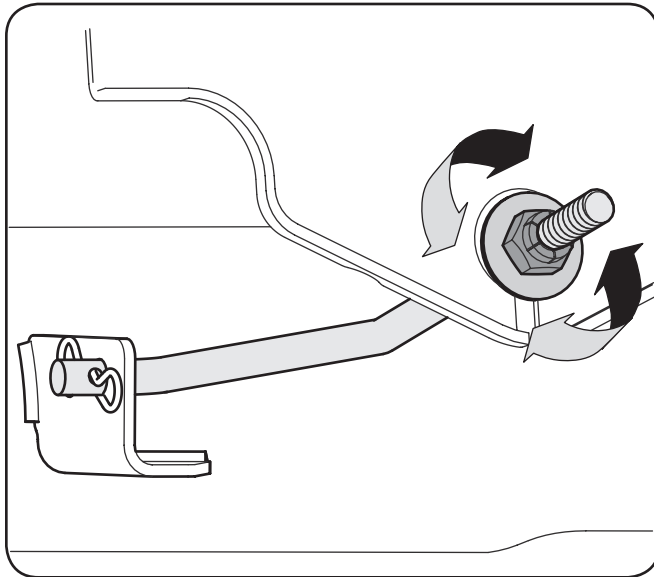

Figure 6-3
3. Locate the nut on the front side of the stabilizer bracket. See Figure 6-3. To level the deck: